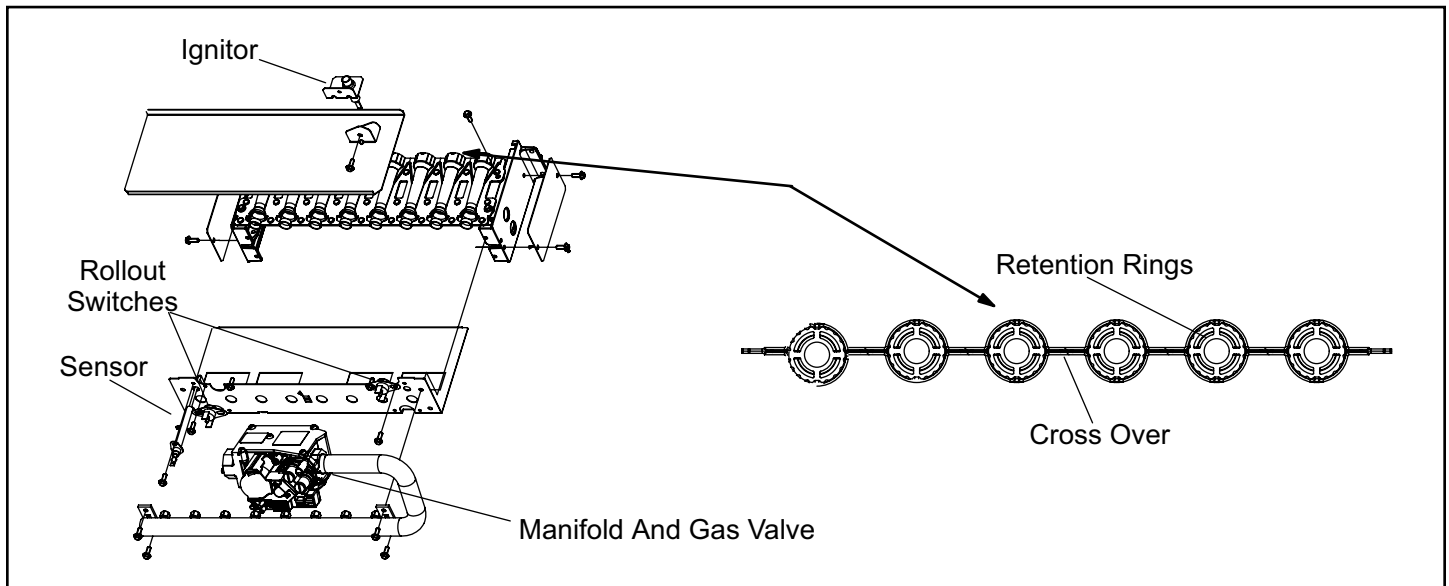

Figure 27. Burner Removal
5. To clean burners, run a vacuum cleaner with a soft brush attachment over the face of burners. Visually inspect inside the burners and crossovers for any blockage caused by foreign matter. Remove any blockage. Figure 27 shows burner detail.